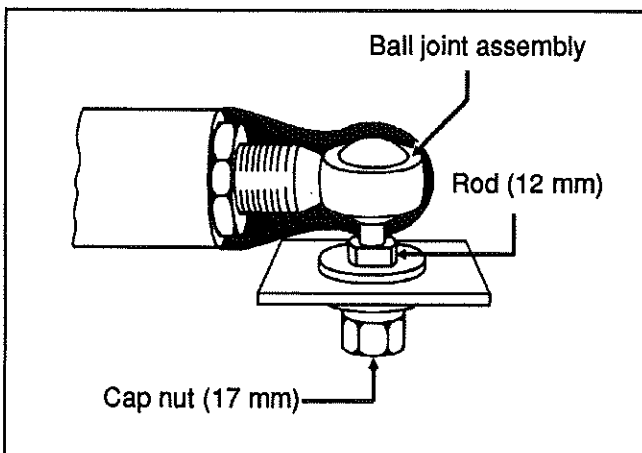

Fig. 14
1. Loosen cap nut holding ball joint assemblies on door slotted brackets. See figure 14.